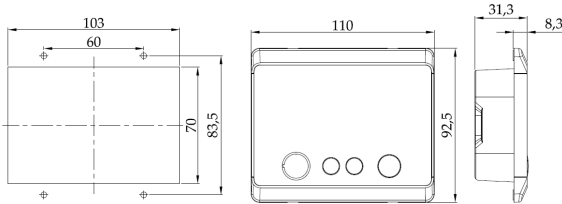

Fig.1 Installation dimension of MEH-B (Unit:mm)
- 1) Cut holes on mounting surface following the cut-out dimension of solid line area in Fig.1